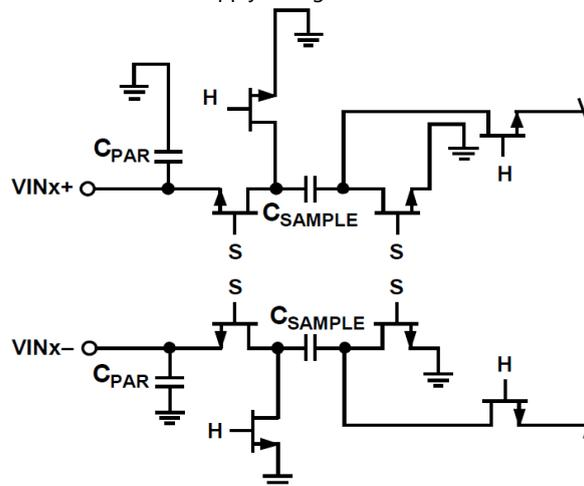

Figure 13. Switched Capacitor Input Circuit
The input circuitry switches between sample and hold modes based on the clock signal (see Figure 13). When the input circuitry switches to sample mode, the signal source must be able to charge the sampling capacitor and complete the build-up within half a clock cycle. A small resistor is connected in series at each input to help reduce peak transient current injected from the driver output stage. Furthermore, low-Q inductors or ferrite beads can be used on each side of the inputs to reduce the high differential capacitance at the analog inputs, thereby maximizing the ADC's bandwidth. Low-Q inductors or ferrite beads must be used when driving the converter front end at high-frequency (IF). A differential capacitor or two single-ended capacitors can be used at the inputs to provide a matched passive network. This ultimately forms a low-pass filter at the inputs to limit unwanted broadband noise.